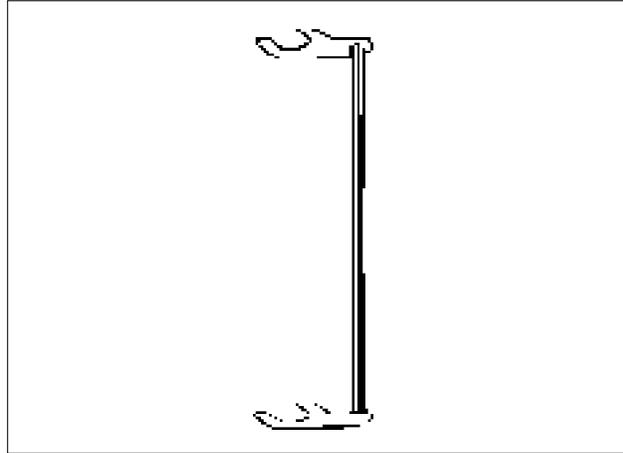

FIG. 5
2. The feeler gage (Cummins P/N 3871534) has 0.023" feeler stock on both ends. One end can be used on cylinders 1, 3 and 5; the other end can be used for cylinders 2, 4 and 6 (see Figs. 5 and 6).